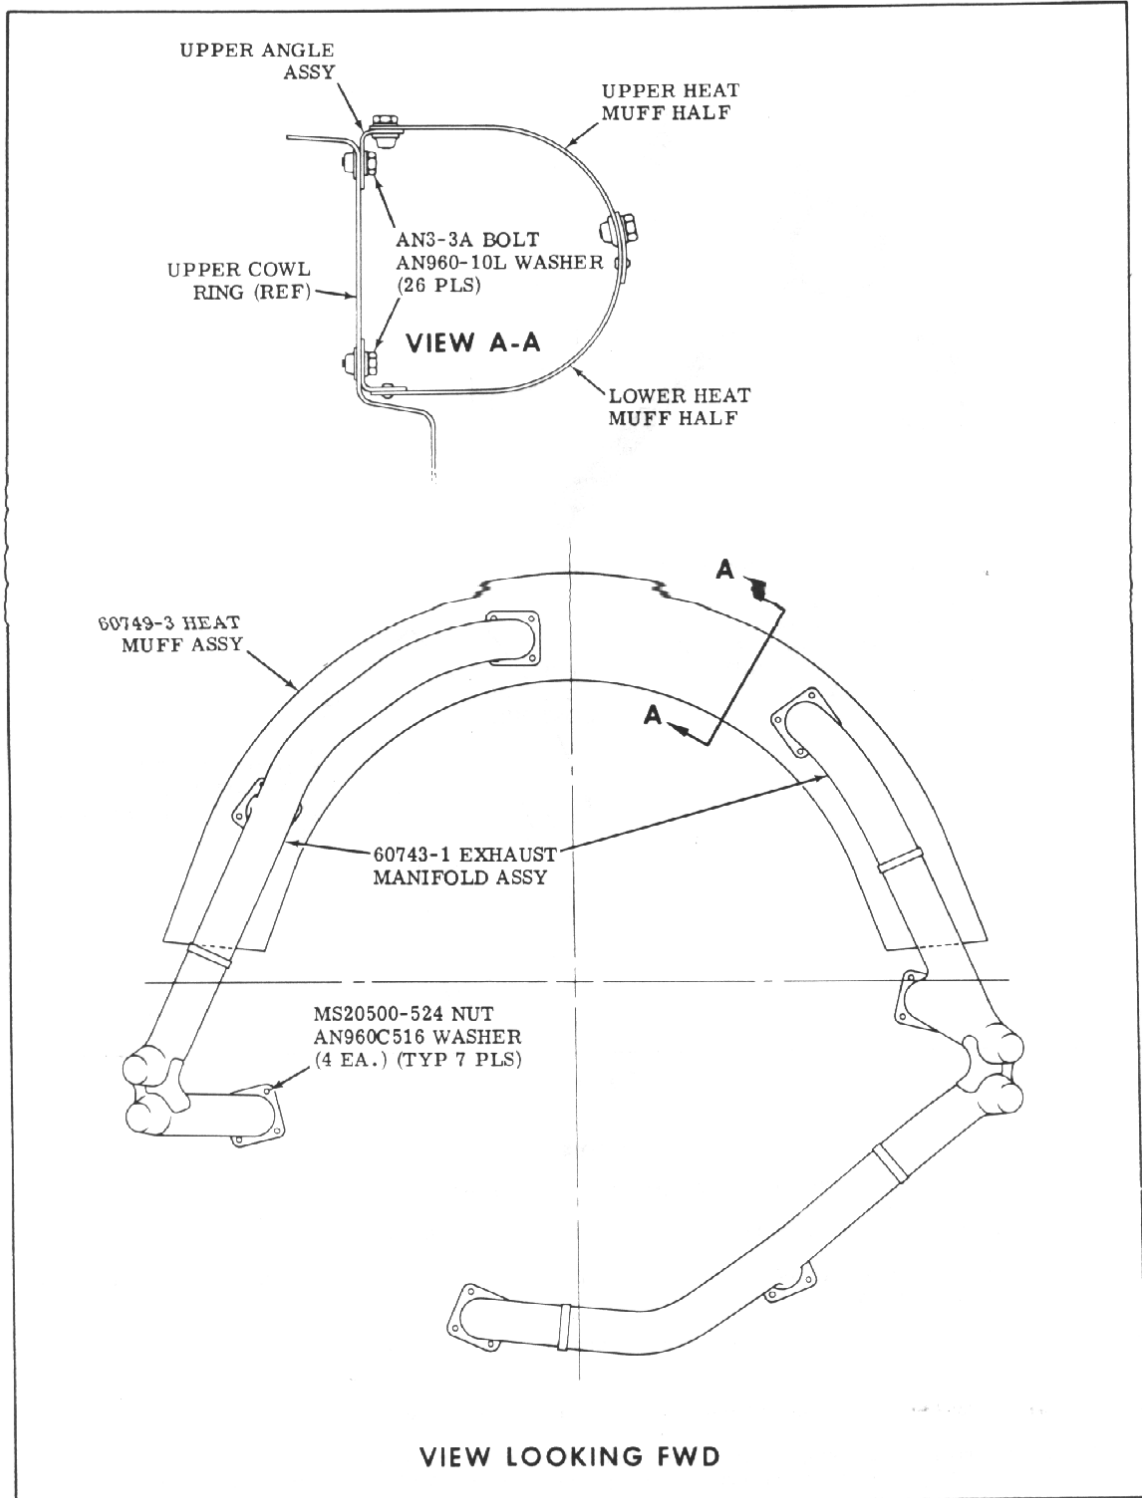

Figure 4.
25. Install lower half of 60749-3 muff assembly on ring halves with AN3-3A bolt and AN960-10L washer (12 places) (see Figure 4).
26. Install heat muff upper angle assembly on ring halves with AN3-3A bolt and AN960-10L washer (14 places) (see Figure 4).
27. Install 60743-1 exhaust manifold assembly on engine with MS20500-524 nut and AN960C516 washer (28 places)(see Figure 4).
28. Install upper half of muff assembly using hardware furnished with muss assembly (see Figure 4).